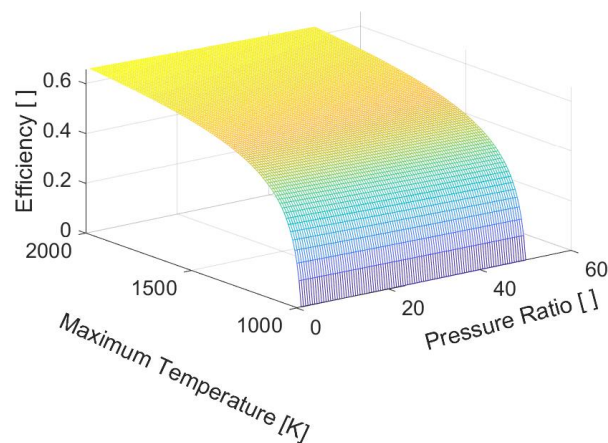

Figure 6 - Varying efficiency with changes in compressor pressure ratio and combustor maximum temperature
- Figure 6 also combines the concepts seen before. Pressure ratio is the only parameter severely affecting the cycle efficiency, but maximum temperature does affect it slightly linearly.